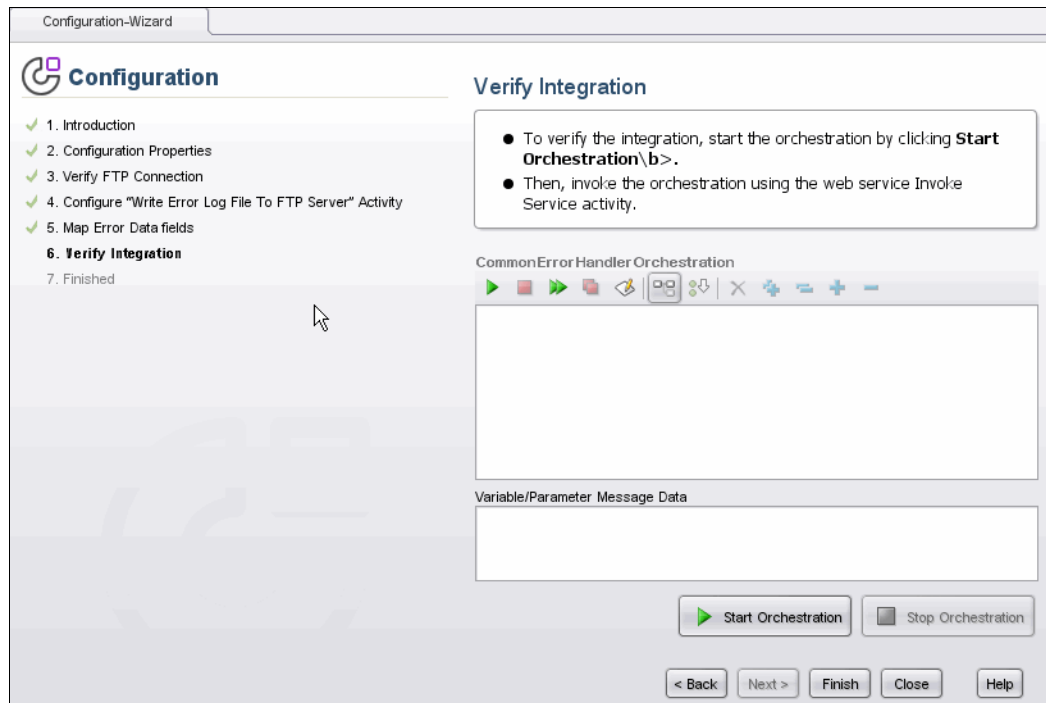

Figure 7-30 Configuration Wizard verification step
7. In this step, you verify that the TIP is working properly, as shown in Figure 7-30 on page 316. We will skip testing for now. Click **Finish**.